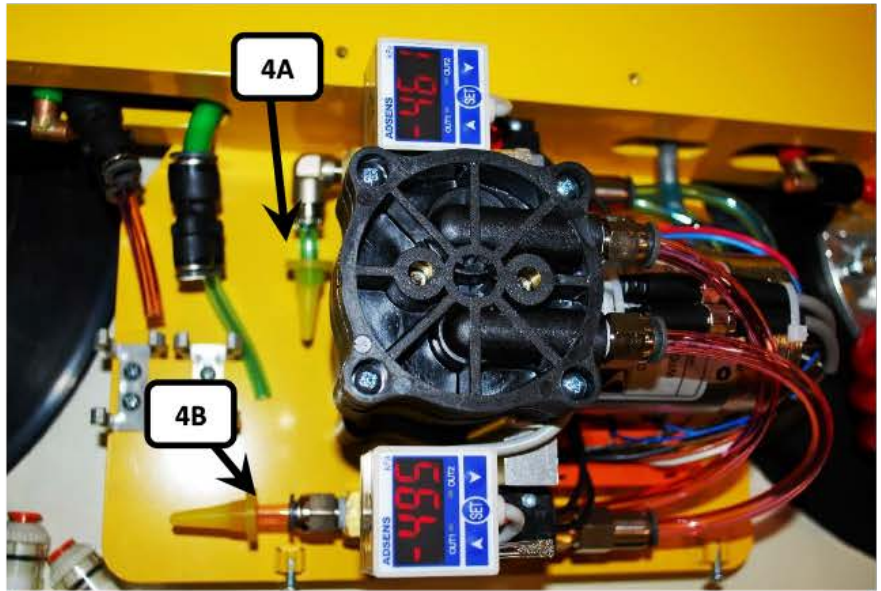

FIGURE 4
5) Remove the hose from the valve assembly that connects the vacuum gauge. Install a short piece of ¼" O.D. hose that is capped off to create a fitting plug as shown in **FIGURE 4**, items **4A** and **4B**.